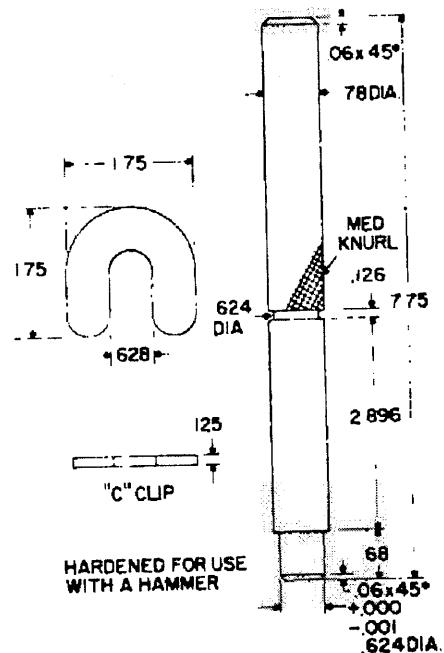

Fig. E2-34—Drawing of a special tool that should be used for removal and installation of needle bearing (35—Fig. E2-33).
Needle bearing (35) and bushing (34) should only be serviced with proper tools as improper service procedures may damage gearcase. A combination removal/installation tool for drive shaft needle bearing (35) may be constructed using drawing in Fig. E2-34.